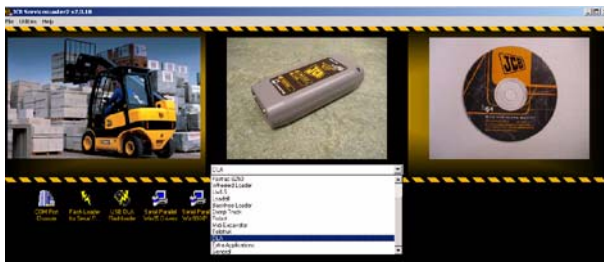

Fig 10.
- 2 Select 'DLA' from the drop down menu. → Fig 10. (□ M4-8)
- 2 Select 'DLA' from the Servicemaster drop down menu. → Fig 10. \(□ M4-8\)
- 3 Select 'DLA' from the drop down menu. ⇒ Fig 10. \(□ M4-8\)